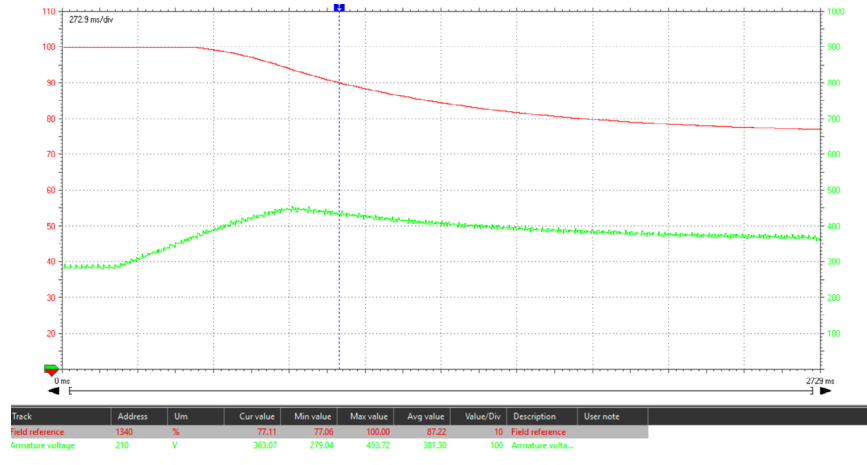

Figure 5-13: Regulator too slow, armature voltage rises above the maximum setpoint of 380 V
- Check the armature voltage (IPA 210–Armature voltage). After a possible brief transient, the voltage should remain stable. See figures 5-13 to 5-15. You can adjust the proportional and integral gains in the FIELD CONTROL \ FIELD REG TUNE menu using parameters IPA 1400–Voltage reg P and IPA 1402–Voltage reg I, respectively.